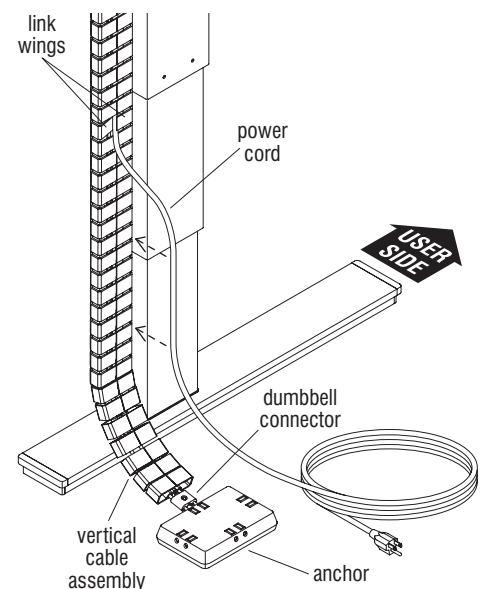

Figure 6
4. Working from the top of the vertical cable manager assembly and down, insert the power cord into each link by pressing the cord in, between the link wings. Once the desired amount of cord has been inserted, slide cable down through the link assembly (Figure 6).